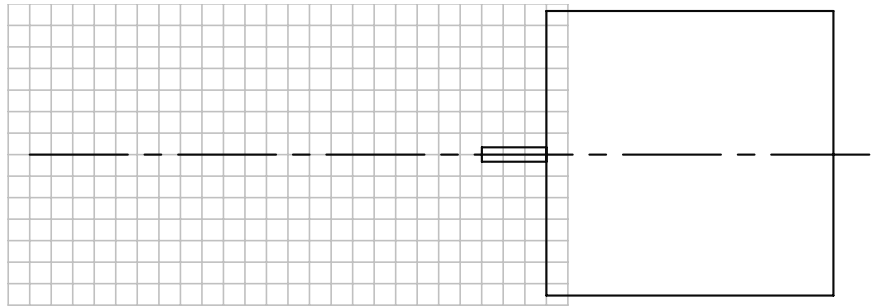

FIG. 4
Step 8. Draw the lines in **Fig. 4**. Use the grid to determine the location of the lines.